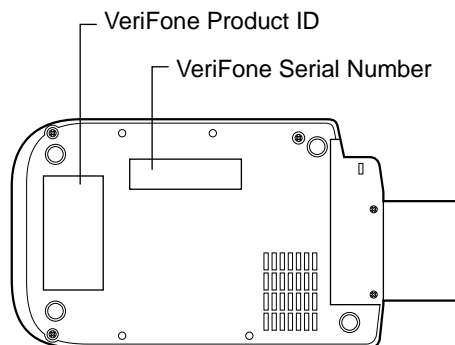

Figure 19 Information Labels on Bottom of Terminal
1. Gather the following information from the printed labels on the *bottom* of each Omni 3350 terminal (Figure 19):